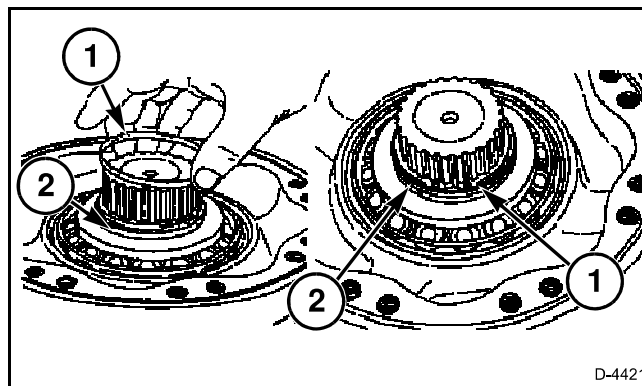

FIG. 233
FIG. 233: Put the snap ring retainer (1) on top of the snap ring spacer (2) as shown so that the retainer surrounds the snap ring. If the retainer does not easily fit around the snap ring, the snap ring is not properly seated.